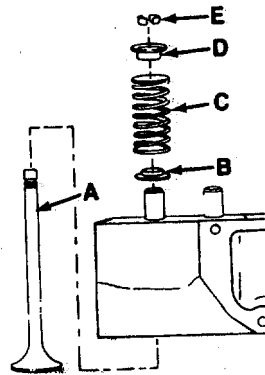

FIGURE 4-16. Valve and Spring Installation Order.
- b. Install the valves in their original positions in the cylinder head and the valve springs in the cylinder head as follows: (FIGURE 4-16).